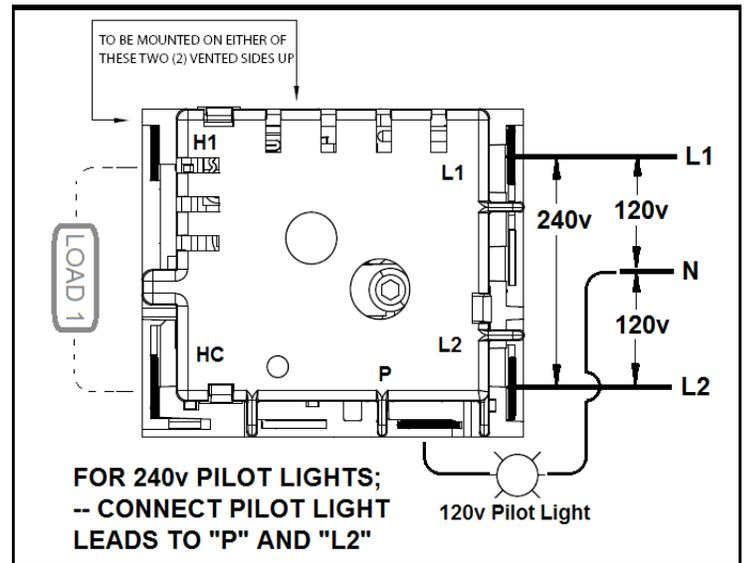

Figure 3
2. Wire for direct control of loads up to 15 amperes. See Wiring Diagram (Figure 3) – Connect: